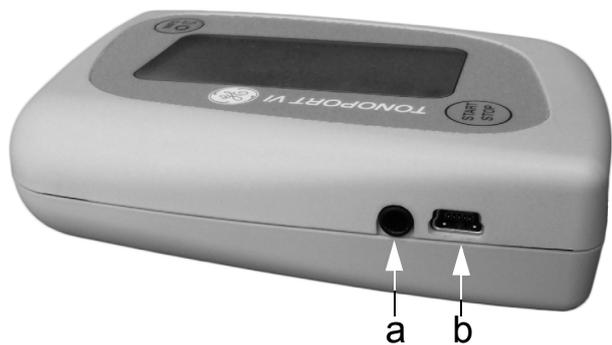

Fig. 5-1 Connections for PC cable
- via cable 2001589-040 if the USB port of TONOPORT VI is used (**b**, Fig. 5-1)
- via cable 2001589-011 if the serial port of TONOPORT VI is used (**a**, Fig. 5-1)
To be able to use the USB port of TONOPOINT VI (b, Fig. 5-1), you need to install the USB driver and check the communication as described below.